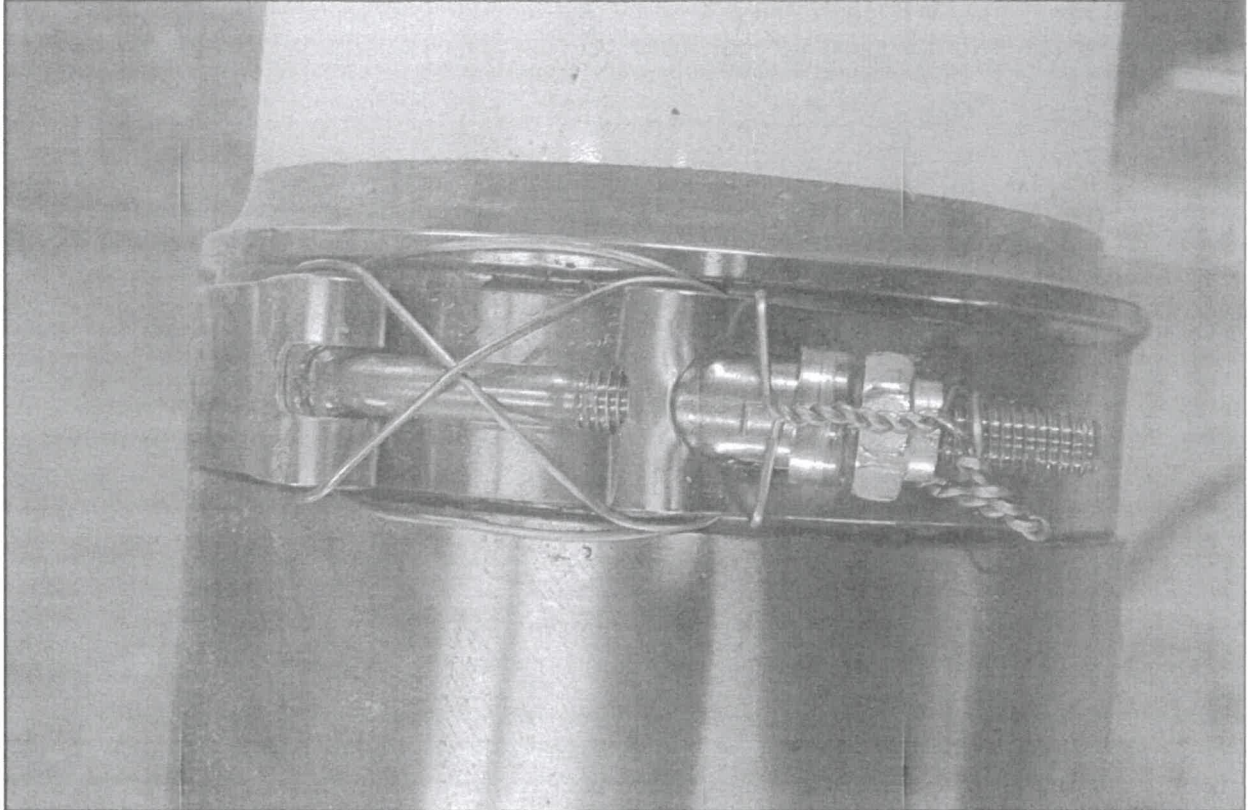

Figure 1 - Suggested MS21920-XX Clamp Lockwire Pattern
- 2.3 Install 0.032" stainless steel lockwire on all MS21920 Support Clamps per AC43.13-1B Section 7 using Figure 1 of this Service Instruction as a guide.